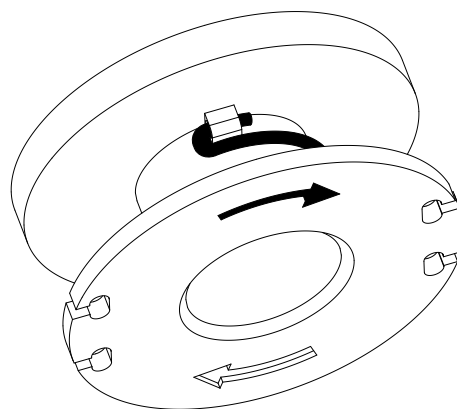

Fig. 9
5. Bend the line as shown (Fig. 9).
5. Wrap the line evenly and firmly around the spool according to the arrow (Fig. 9).